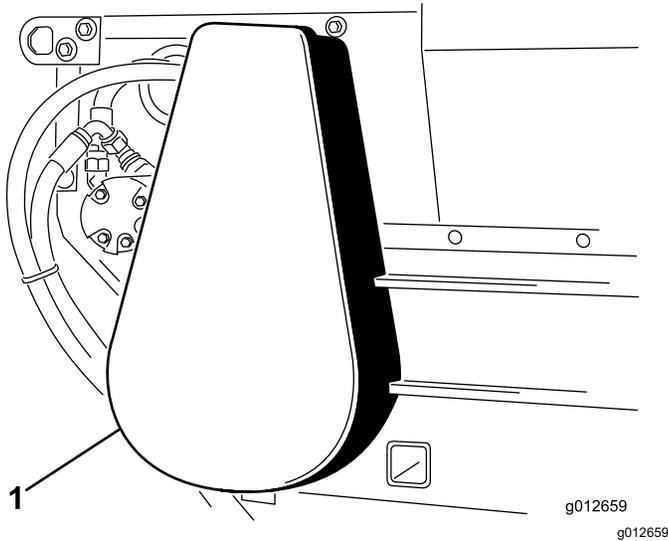

Figure 28
1. Remove chain cover (Figure 28).